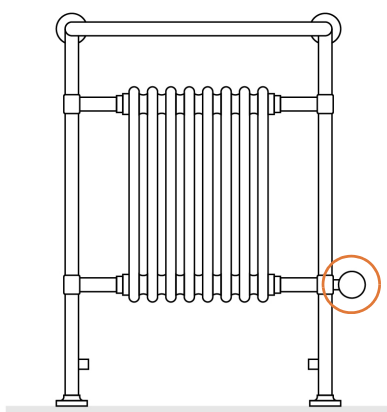

Figure 1 | Correct element positioning
- The element must be fitted at the bottom right side of the towel rail (**Figure 1**).
- The power lead must be connected to a socket which must be at least 25cm from the floor. Do not connect the element to the power supply until it is secured within the towel rail and correctly orientated, as demonstrated in **Figure 1**.